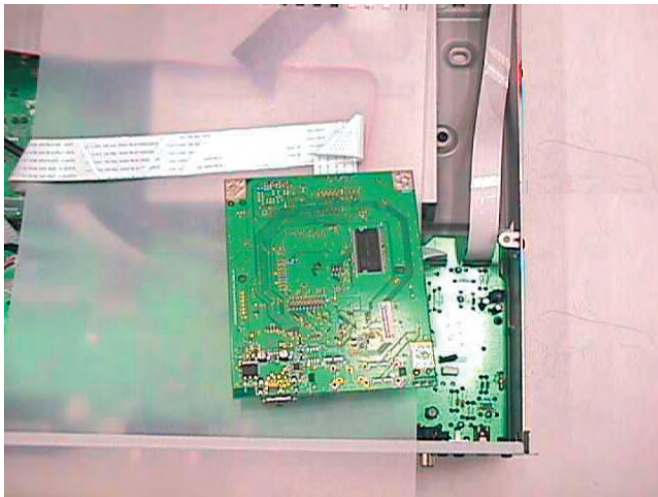

Figure 4-17: HDMI Board Service Position
- 2) Service Position of HDMI board given in Figure 4-17.